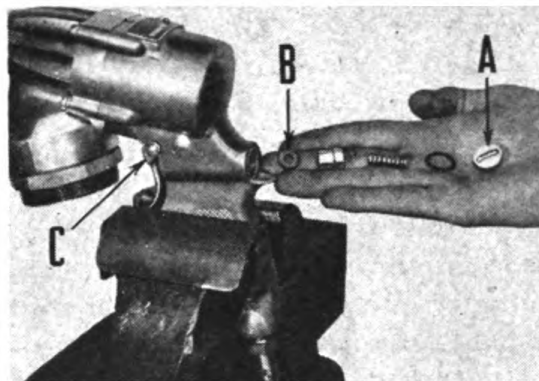

Figure 210
(1) Unscrew plug ("A" Figure 210) and remove spring and other air valve parts.
Remove dirt from washer ("B" Figure 210). If washer is worn, replace and reassemble.
(1) Remove trigger by taking out screw ("C" Figure 210).